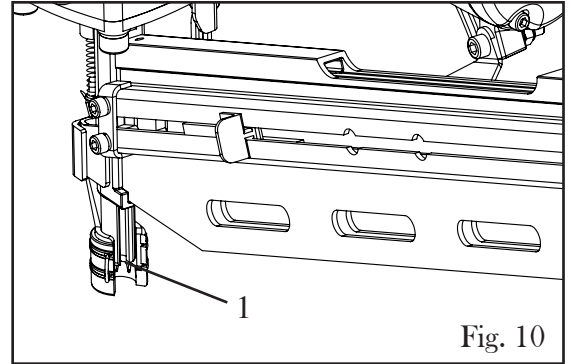

Fig. 10
CLEARING JAMMED FASTENERS (Fig. 10 & 11)
3. Use a pair of needle nose pliers or a flat head screwdriver to remove the bent fastener from the back opening of the nosepiece (Fig. 10 - 1). If the fastener cannot be removed directly, refer to the following step to remove the magazine.